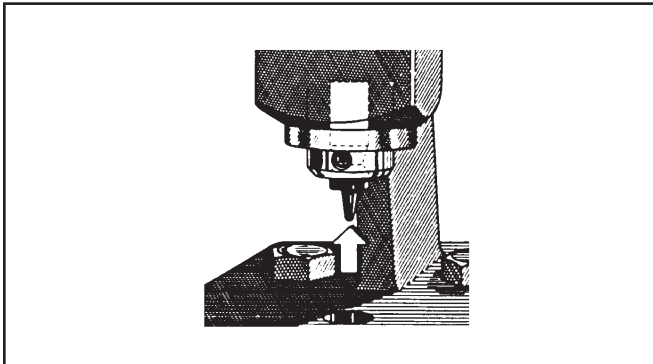

Figure 15. Replacing the Punch
2. Insert a new punch into the holder and push it up until it is fully seated (Figure 15). Secure the punch to the chain breaker holder by fully tightening the set screw.